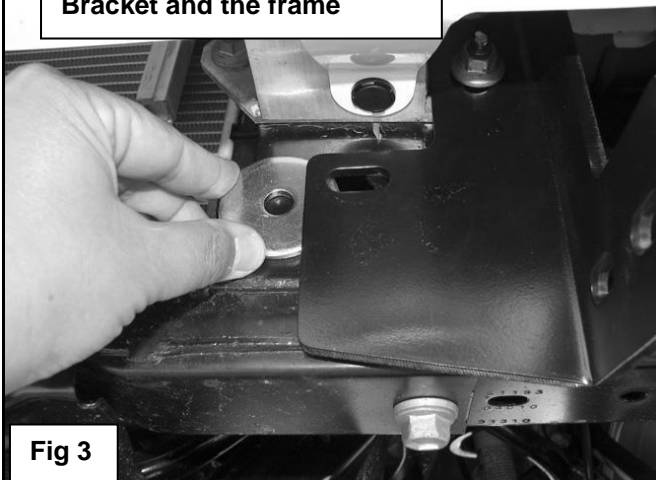
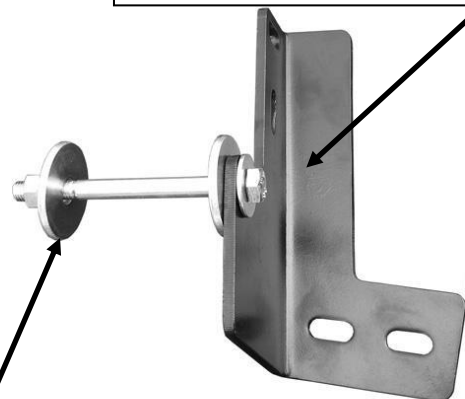

Fig 3
Fig 4
- Select (1) 12mm Spacer Washer. Insert the 12mm Spacer Washer between the Mounting Bracket and the frame channel, **(Figures 3, 4 & 7)**. Insert (1) 10mm x 120mm Hex Bolt and (1) 10mm x 30mm OD Large Flat Washer through the oval hole in the Mounting Bracket, the Spacer Washer and into the large hole in the end of the frame channel, **(Figures 4, 5 & 7)**. Place (1) 12mm Spacer Washer over the 10mm Hex Bolt covering the opening in the back of the frame channel. Secure the Hex Bolt to the frame channel with (1) 10mm x 20mm OD Small Flat Washer, (1) 10mm Lock Washer and (1) 10mm Hex Nut, **(Figures 4, 6 & 7)**. Snug but do not tighten all of the hardware. Repeat **Steps 1 – 2** for passenger side Mounting Bracket installation. Reinstall the factory tow hook removed in **Step 2**.